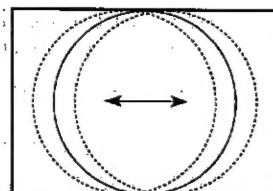

Fig. 2
- Adjust the horizontal location to obtain picture centering (fig. 2).